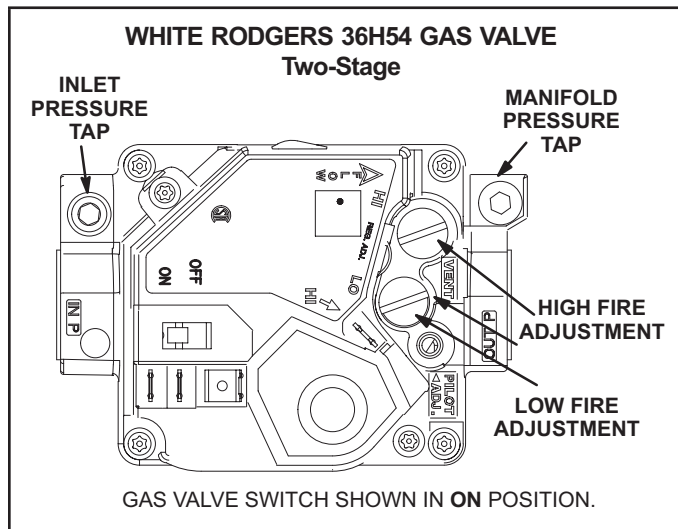
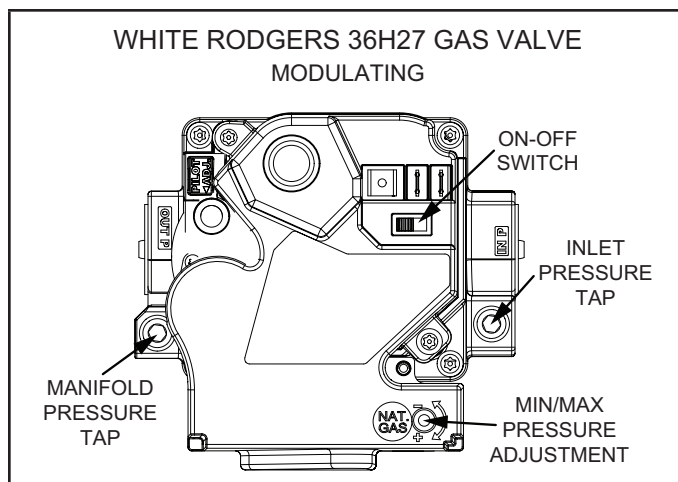

FIGURE 3
FIGURE 4
- 5 - Move gas valve switch to **OFF**. See FIGURE 3 and FIGURE 4.
- 6 - Wait five (5) minutes to clear out any gas. If you then smell gas, **STOP!** Immediately call your gas supplier from a neighbor's phone. Follow the gas supplier's instructions. If you do not smell gas, go to the next step.
- 7 - Move gas valve switch to **ON**. See FIGURE 3 and FIGURE 4.
For White Rodgers 36H54 and 36H27 valves (FIGURE 3 and FIGURE 4), supply pressure is accessed by removing 1/8" hex screw. Remove the 1/8" hex screw and install a 1/8" fitting with hose barb. Connect tubing from the barbed fitting and route to measuring device to measure supply pressure.
For White Rodgers 36H54 and 36H27 valves (FIGURE 3 and FIGURE 4), remove supply pressure barbed fitting and reinstall the 1/8" hex screw.
For White Rodgers 36H54 and 36H27 valves (FIGURE 3 and FIGURE 4) manifold pressure, remove the 1/8" hex screw, install 1/8" fitting with hose barb, connect hose from barb to "+" side of measuring device.